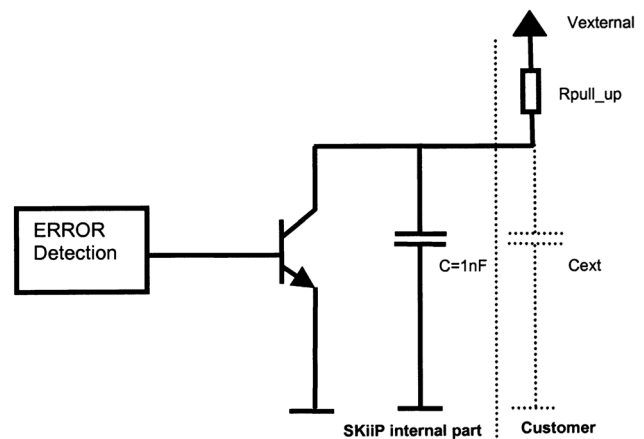

Fig. 11 SKiiP 3 - Open Collector Error Transistor
- For SKiiP 3 this circuit is simpler as can be seen in Figure 11.